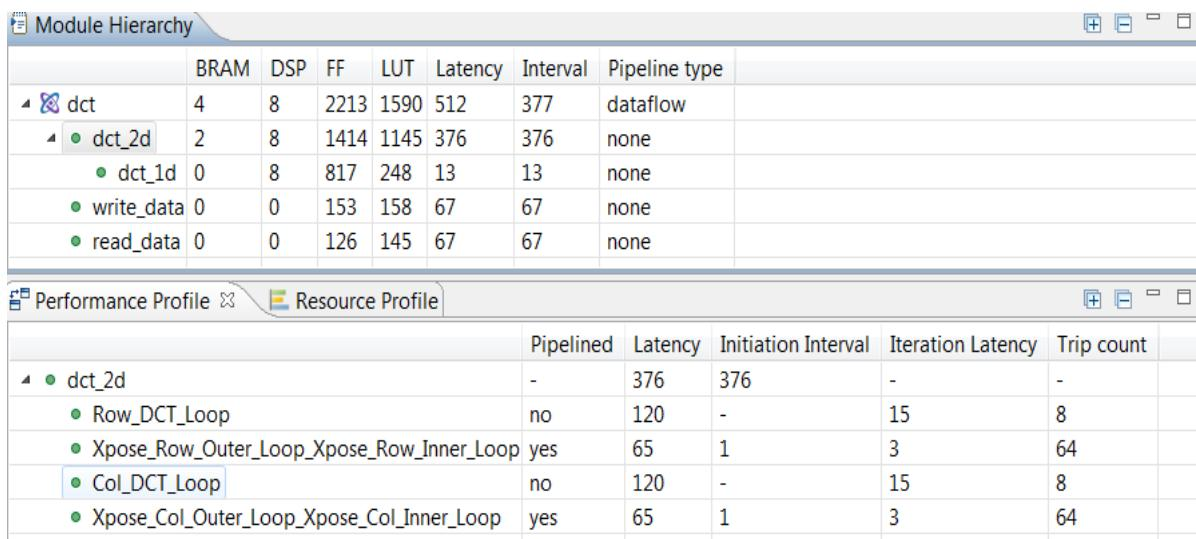

Figure 6-31: DCT Analysis View after Dataflow Optimization
8. In the **Module Hierarchy**, you can see `dct_dct_2d` accounts for most of the interval. Ensure module `dct_2d` is selected to see the view in Figure 6-31.